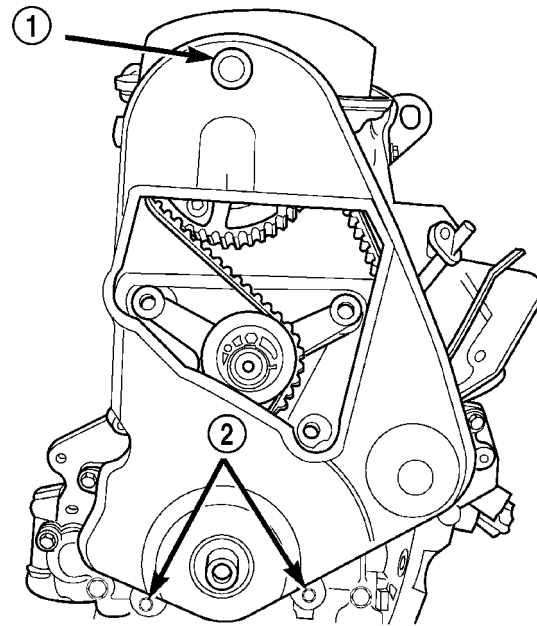

Fig. 153 Front Timing Belt Cover
- (1) Remove number one spark plug.
- (2) Using a dial indicator, set number one cylinder to TDC on the compression stroke.
- (3) Remove the access plug from the front timing belt cover (Fig. 153).
(17) Remove the front timing belt cover fasteners. Remove front timing belt cover (Fig. 153).
- (1) Install front cover and tighten bolts to 12 N·m (105 in. lbs.) (Fig. 153).